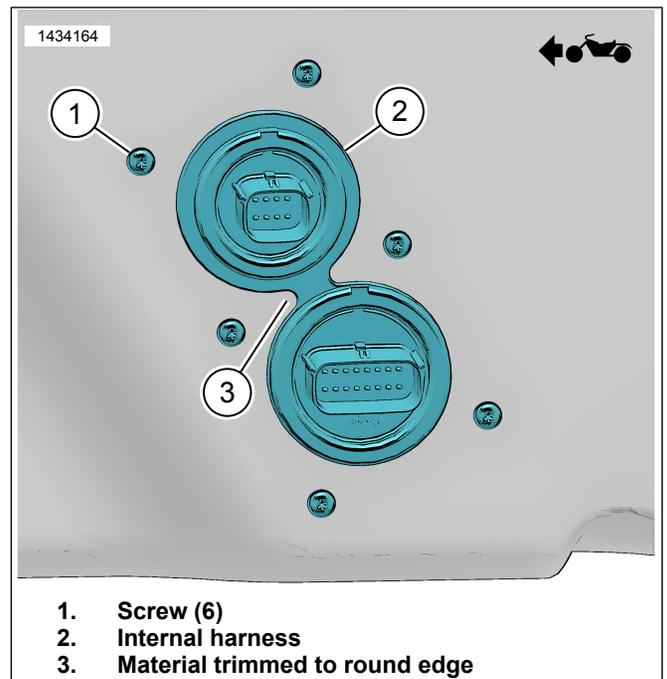

Figure 10. Inner Harness
- d. Figure 10 Trim material to round edge (3).
11. Figure 10 Install internal harness (2).